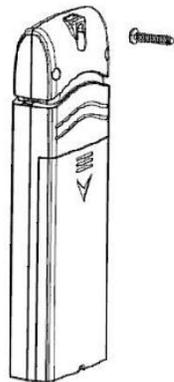

Figure 15
1. Use a screw or nail to affix the remote sensor to the wall, as shown in Figure 15.